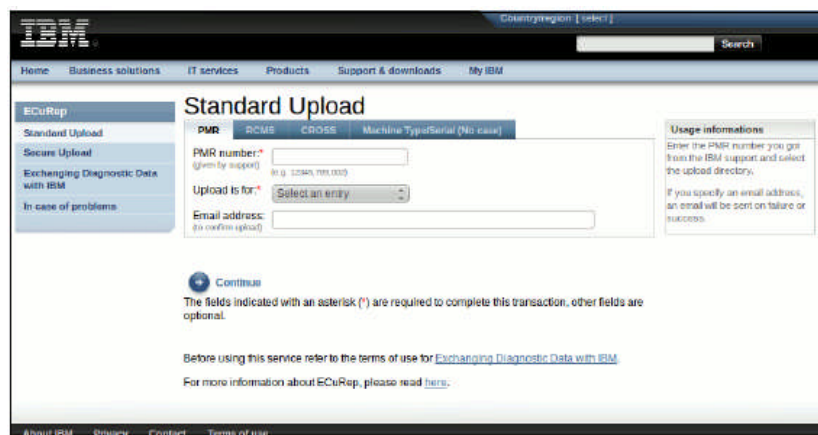

Fig. 10: ECURep page to upload logs to IBM
2. Select either **Standard Upload** or **Secure Upload** from the menu on the left side of the ECURep home page. See Figure 10 below.